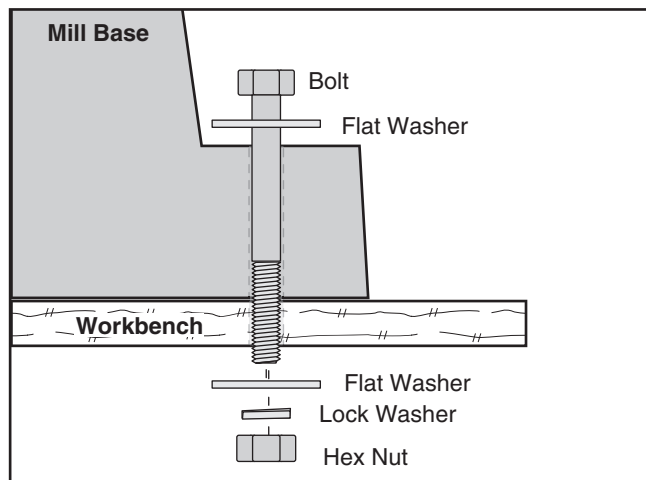

Figure 7. Example of a through mount setup.
5. Bolt the mill to the top of the workbench (see **Figure 7**).